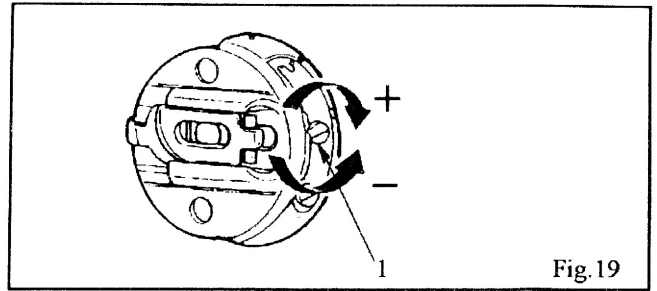

Fig.19
Regulate bobbin thread tension with tension regulating screw (1) as shown in Fig. 19.